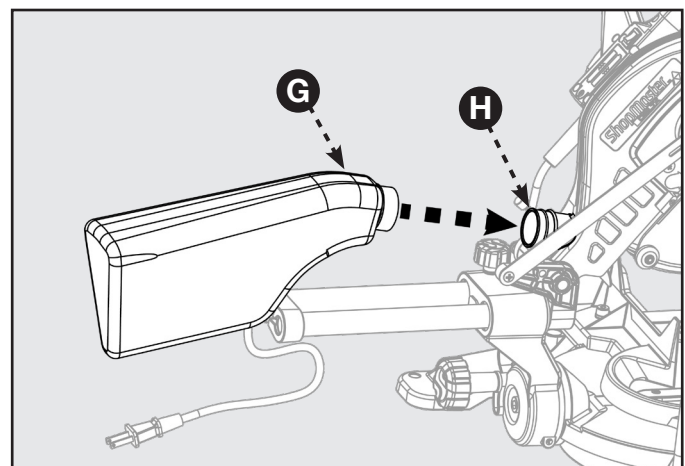

FIGURE 8
The tool includes a dust collection bag that attached over the exhaust port on the upper blade guard. To install, slide the plastic collar (G) of the dust bag onto the dust port (H). See Figure 8.